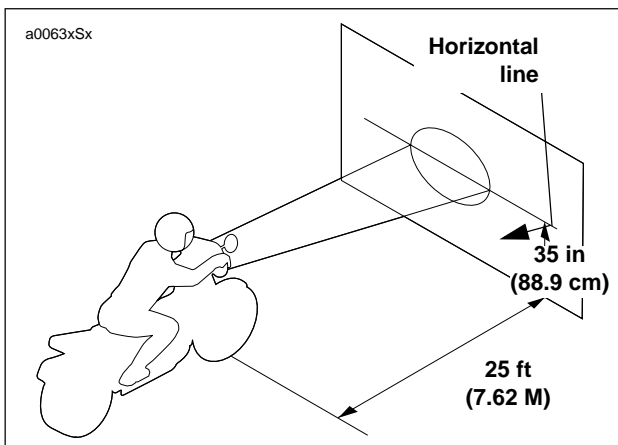

Figure 1-46. Checking Headlamp Alignment
3. See Figure 1-46. Point front of motorcycle toward a screen or wall which is 25 ft (7.62 M) away from front tire contact patch on floor (directly below front axle).